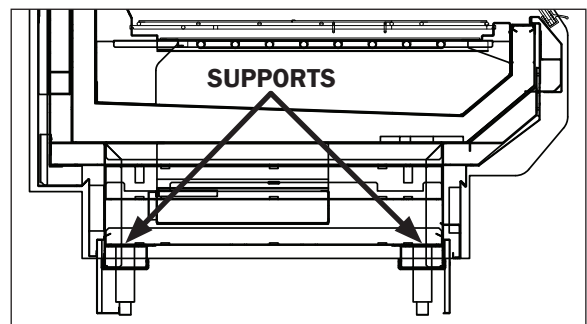

Fig. 2 Vertical supports
7. Locate vertical (bullet leg) support positions along the chalk line (Fig. 2). Spot properly leveled shim packs at each support location.